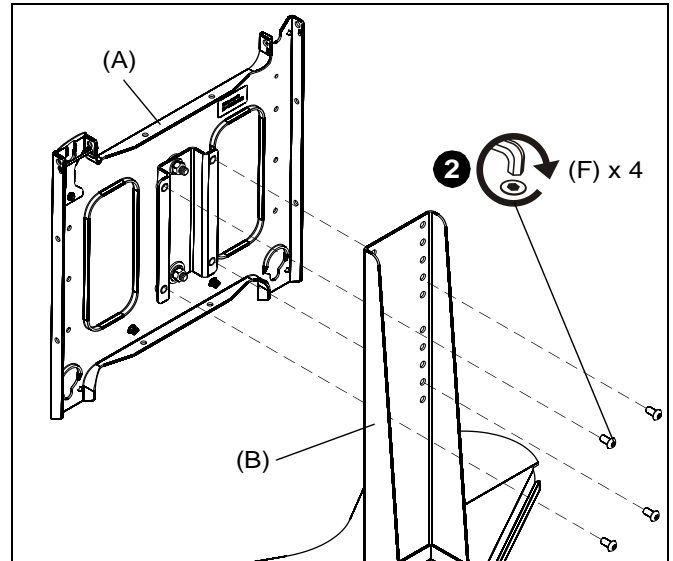

Figure 3
1. Align mounting holes in faceplate assembly (A) with holes in post assembly (B). (See Figure 3)
2. Attach faceplate assembly to post assembly using four 5/16-18 x 5/8" button head cap screws (F). (See Figure 3)